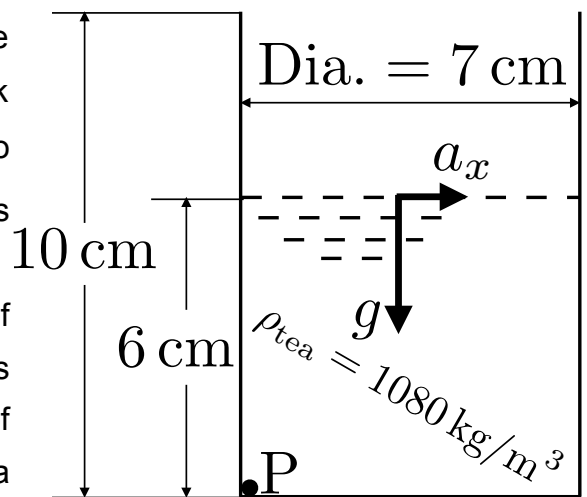

Figure 5: Sugared Tea in a Cup Placed in a Moving Truck
8. A cup of sugared tea placed in a truck is shown in Figure 5. The figure also shows the directions of the acceleration of the truck $a_x = 3 \text{ m/s}^2$ and the acceleration due to gravity $g = 9.81 \text{ m/s}^2$. These accelerations can be assumed to be constant.